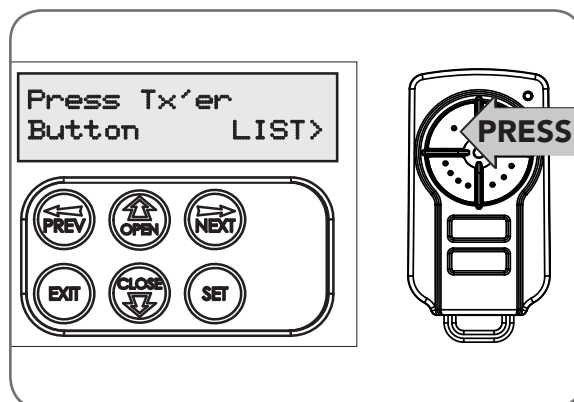

Fig 10.3
- Press the transmitter button you wish to use to operate the Gate Opener (e.g. button 1) **(Fig. 10.3)**.
- Press the same transmitter button again as prompted by the display **(Fig. 10.3)**.